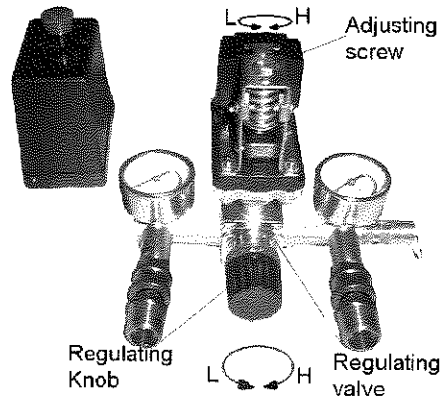

Fig.3
(1) The compressor is controlled by pressure switch when normal working. It can be stopped automatically as pressure increasing to the maximum and restart as pressure decreasing to the minimum. The rated pressure has been adjusted when produced. Don't change it carelessly. As soon as motor switched off, the compressed air in the discharge pipe should be released through the release valve under the switch. This is the necessary condition for restart, or the motor will be damaged. The rated pressure can be adjusted by turning bolt of the switch (Fig.3).
(2) The output pressure of compressed air can be adjusted by regulating valve. Pull up the knob of regulation valve and turn it clockwise to increase the pressure (Fig.3).
(3) When the compressor in running need to be stopped, only set the knob of pressure switch in position off.